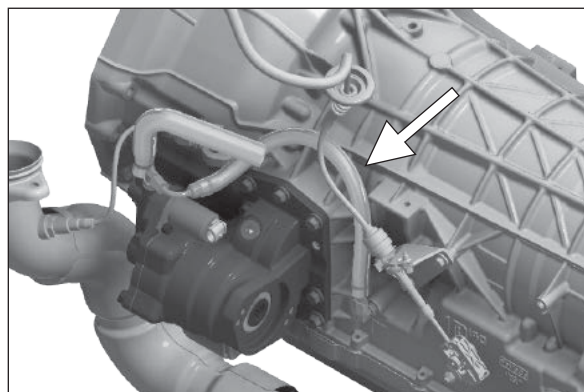
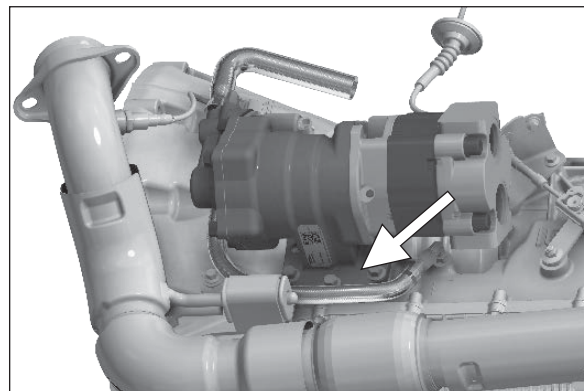

Figure 23
Figure 24
11. Connect hose assembly (PN 329784-3X) to the 90-degree fitting previously installed on the transmission. Chelsea recommends all hoses be routed above the PTO as shown in (**Fig. 23**). Some large pumps may require lube hose to be routed below the PTO (**Fig. 24**) due to clearance to the transmission fitting. Hold hose fitting in desired position and tighten lock nut with a wrench until solid feeling is encountered. From that point, apply one-sixth turn. Next, connect the other end of the hose to fitting on the PTO valve cap. Tighten until solid feeling is encountered. From that point, apply one-sixth turn.
12. For Gas applications, thermal sleeving is required for lube hose assembly. Slide sleeve over lube hose. Secure sleeve with included steel cable ties to metal hose ends of the assembly (**Fig. 24**).
**NOTE:** If smaller pumps (PGP511 or similar) are used on 4x4 applications, hose should be routed behind the pump and above the PTO. On gas applications, routing the hose above the pump is highly recommended if possible to maintain maximum clearance from the vehicle exhaust. The provided heat sleeve should also be installed (**Fig. 23**).
**NOTE:** If larger pumps (PGP315, P16, or similar) are used on 4x4 applications, the pump body may not allow the hose to be routed behind the pump. In these applications, the hose may be routed beneath the PTO and for gas applications the provided heat sleeve must be used to prevent damage to the hose (**Fig. 24**).